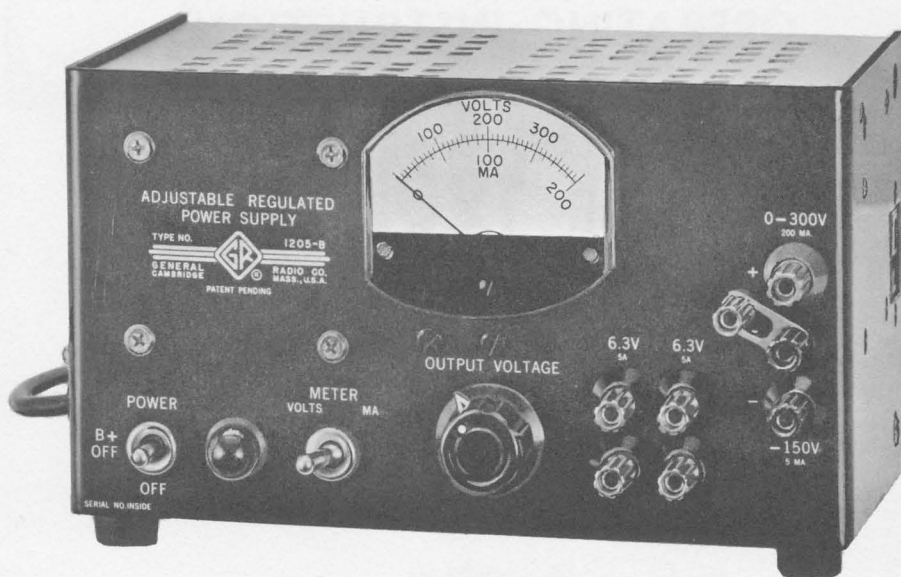

Figure 1. Type 1205-B Adjustable Regulated Power Supply.
1.1 PURPOSE. The Type 1205-B Adjustable Regulated Power Supply (Figure 1) is a compact, high-efficiency, fast-response source of regulated power from 0 to 300 volts, up to 200 ma. The Type 1205-B also includes two 5-amp 6.3-volt supplies and a regulated -150-volt 5-ma bias supply.